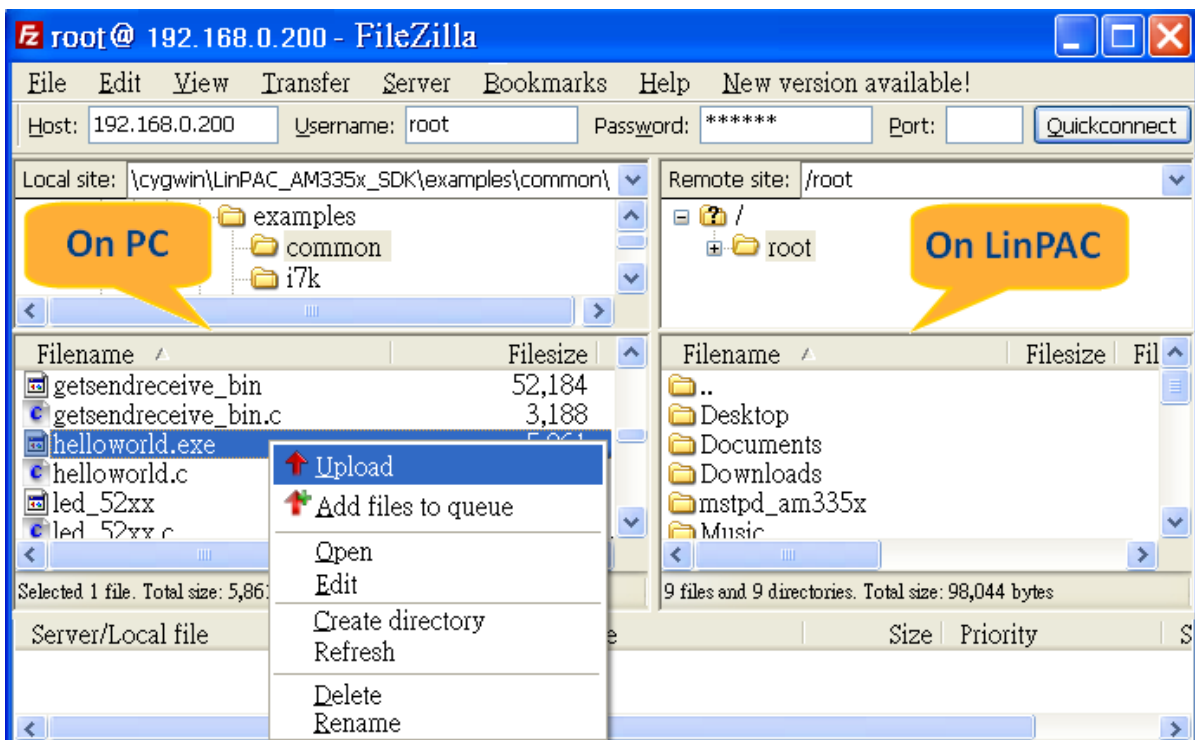

Fig. 3-30
- (3) Upload the "Helloworld.exe" file to the LP-52xx (refer to Fig. 3-30).